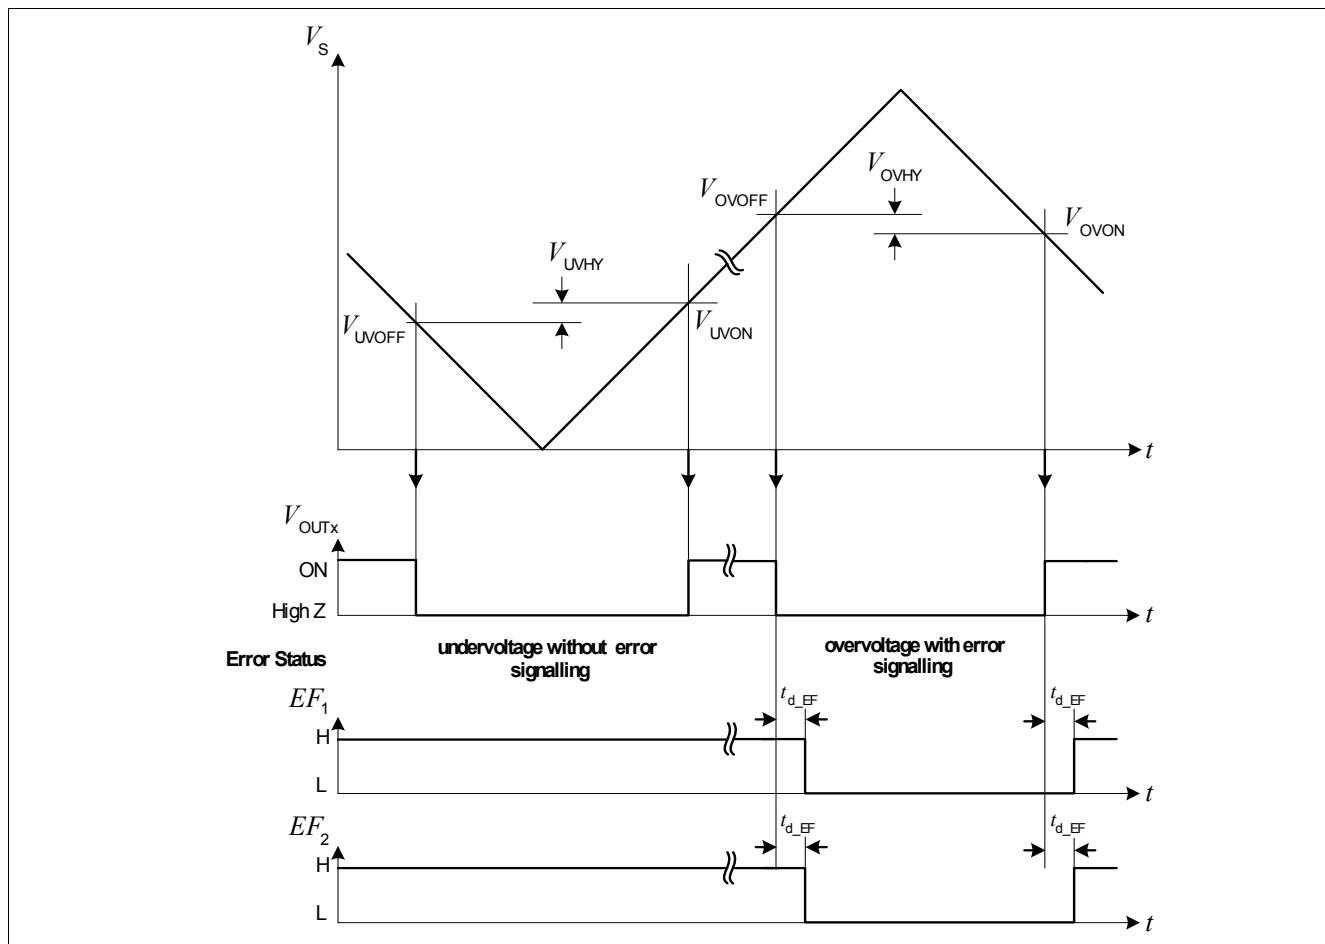
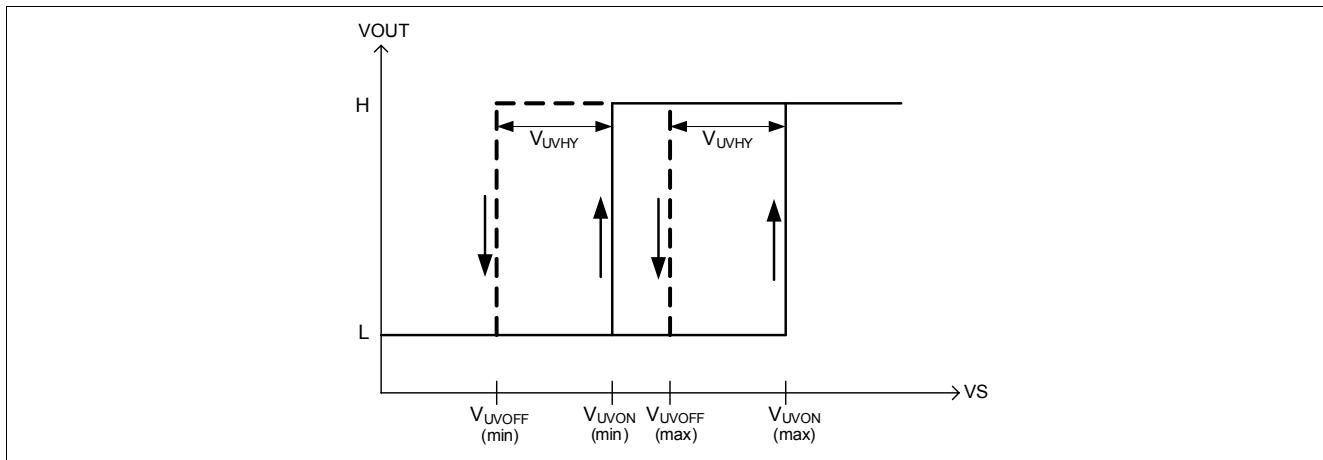

Figure 6 Error Flag behavior for the Over- and Undervoltage case
Figure 7 Undervoltage Hysteresis
- a) **Over voltage:** For voltages below the undervoltage switch OFF threshold ( $V_{UVOFF}$ ) and above the overvoltage switch OFF threshold ( $V_{OVOFF}$ ), the output stages will be switched OFF. The Error Flag however only signals the overvoltage switch OFF case (Figure 6). A switching hysteresis is implemented at both thresholds to allow an autorecovery mode if the supply voltage is back within the operational range.
The power supply Voltage  $V_S$  is monitored for over- and under voltage (refer to block diagram: Figure 1). Figure 6 shows the error flag signalling during an undervoltage and overvoltage situation where as Figure 7 shows the hysteresis concept implemented during undervoltage and overvoltage.